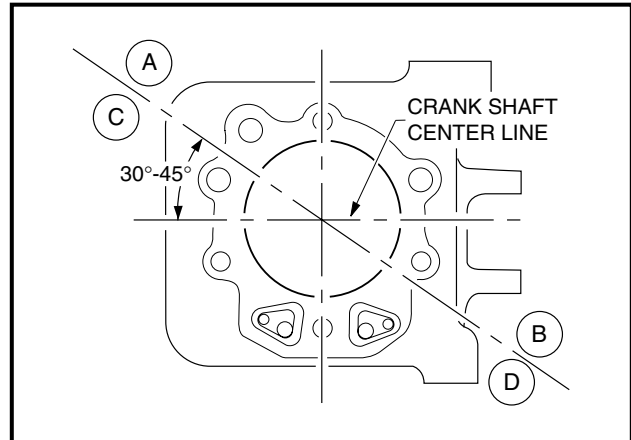

Figure 13-96 Piston Ring Gap Alignment
- Put the piston/connecting rod into the cylinder bore with the lettering MADE IN JAPAN on the connecting rod oriented toward the flywheel side of the engine. Position piston ring gaps so that they are oriented toward the corresponding letters (**Figure 13-96, Page 13-45**): (A) Top Ring Gap, (B) Second Ring Gap, (C) Upper Side Rail Gap, (D) Lower Side Rail Gap.